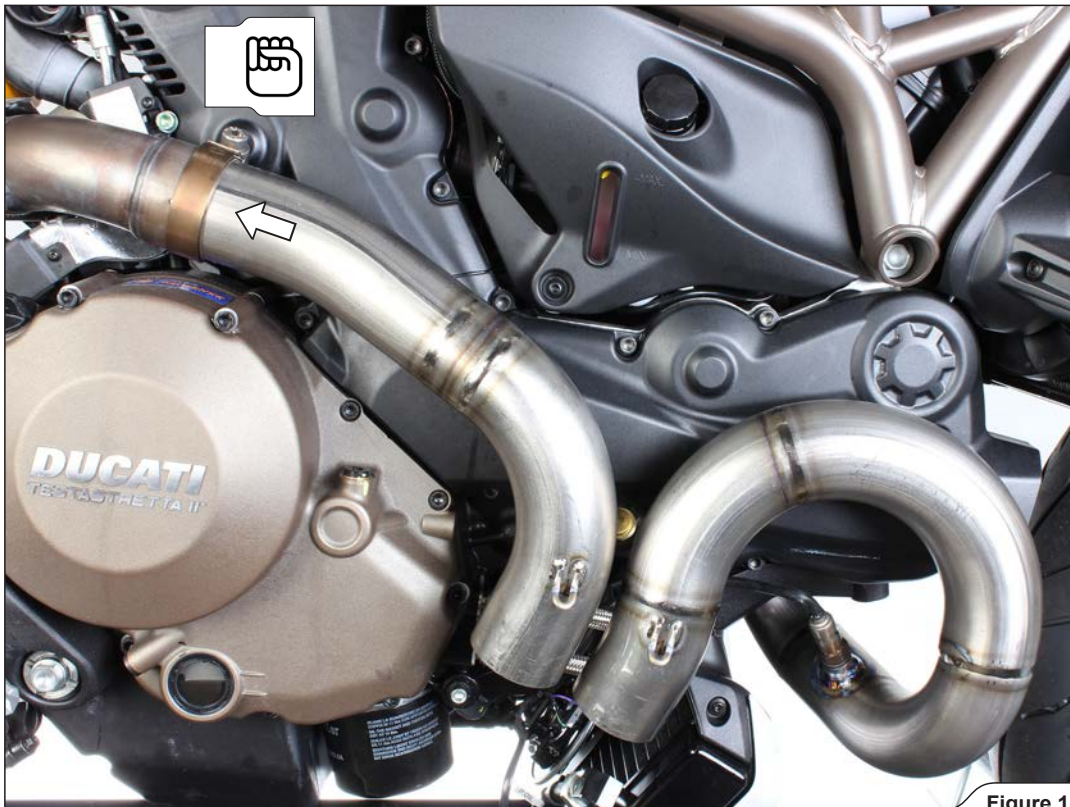

Figure 13
3. Slide the rear header into the stock header and hand tighten the clamp (Figure 13).